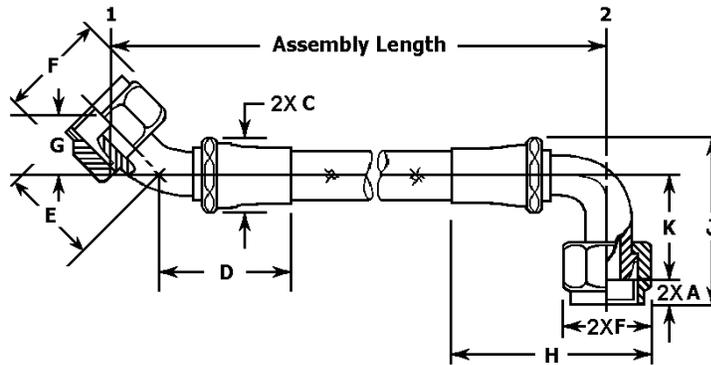

FIGURE 5. Style E hose assembly.
- 2/ Dimensions are shown on figure 5.